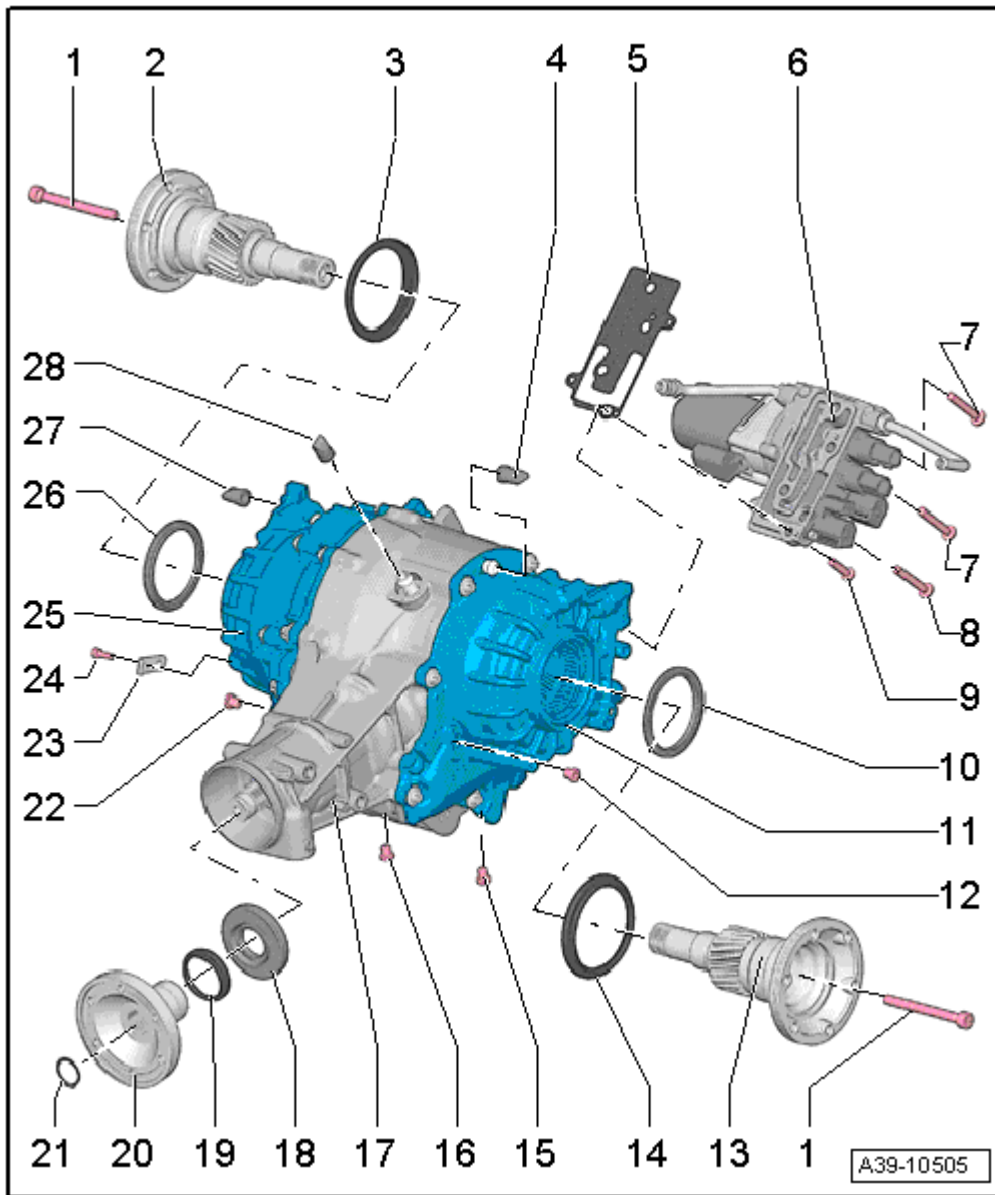

Fig. 37: Rear Final Drive Overview 0BE 0BF
- Currently it is not possible to remove both chambers, refer to item 11 in Fig. 37 and refer to item 25 in Fig. 37 from the final drive.
- Tightening specification, refer to item 22 in **Fig. 37**
- Tightening specification, refer to item 16 in **Fig. 37**